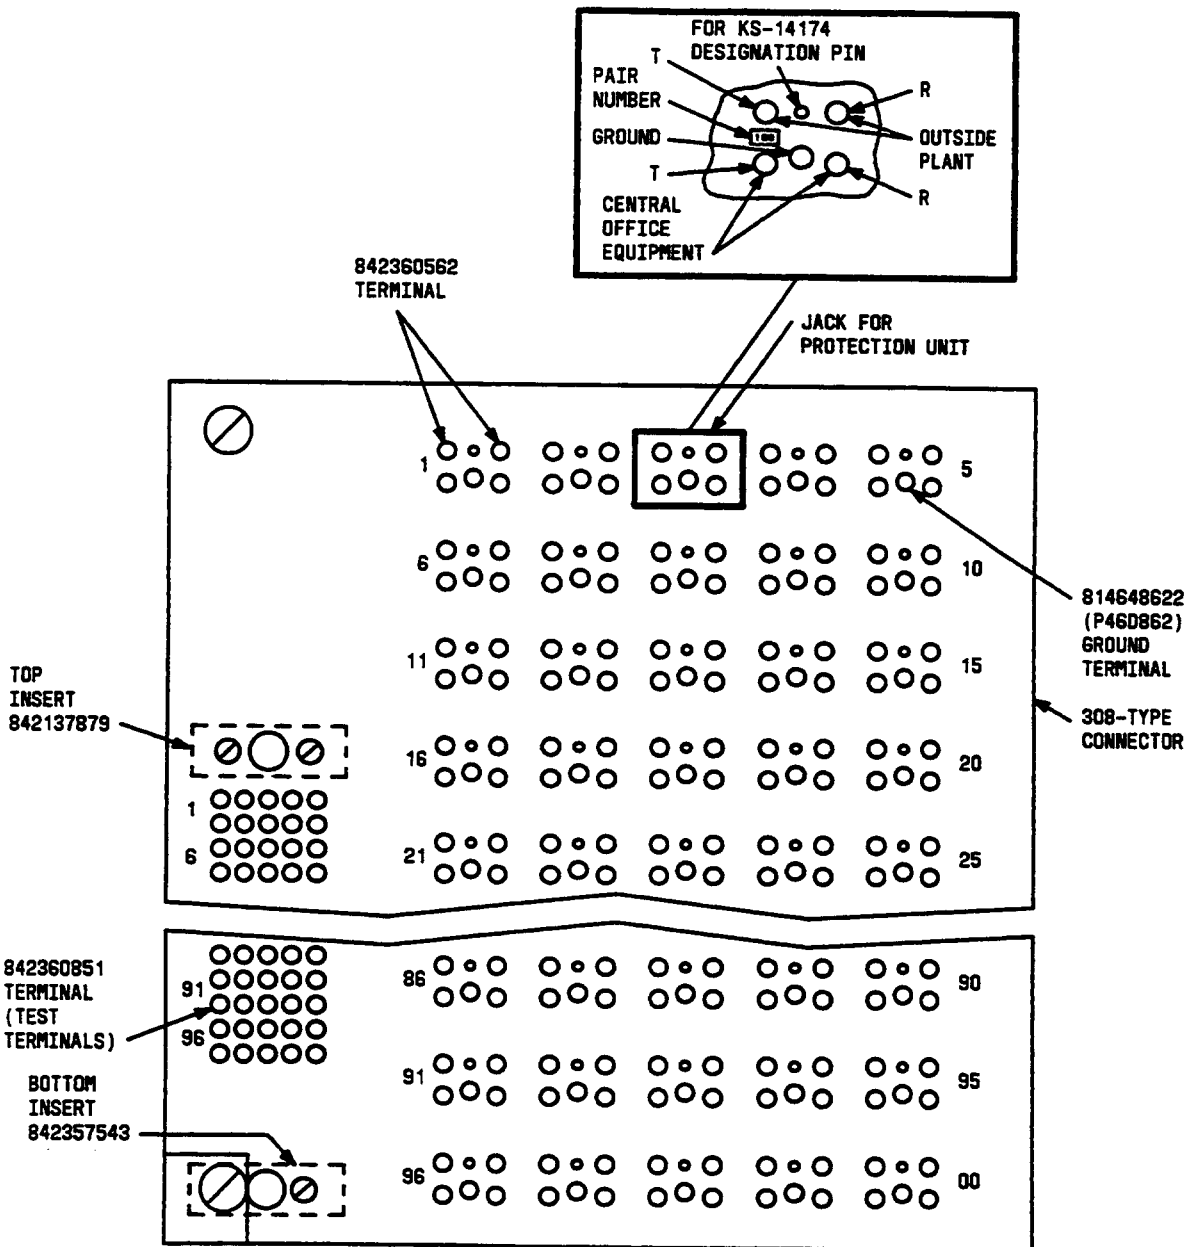

Figure 16—308-Type 1 Connector Panel—Test Connector Threaded Inserts
4.30 The 100-pair P and R test connector attaches to the 308-type connector by means of two thumb-screw fasteners that engage threaded inserts at the top and bottom of the test contact field (Figure 16). The